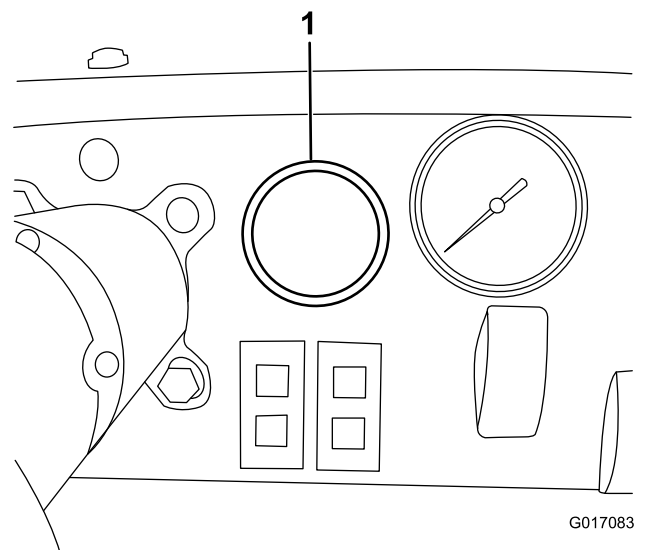

Figure 5
2. Install the speedometer in the dash of the vehicle as shown in (Figure 5).